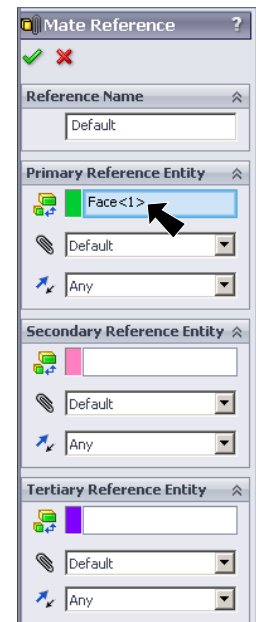

Fig. 17
Step 3. In the Mate Reference Property Manager click OK , Fig. 17.